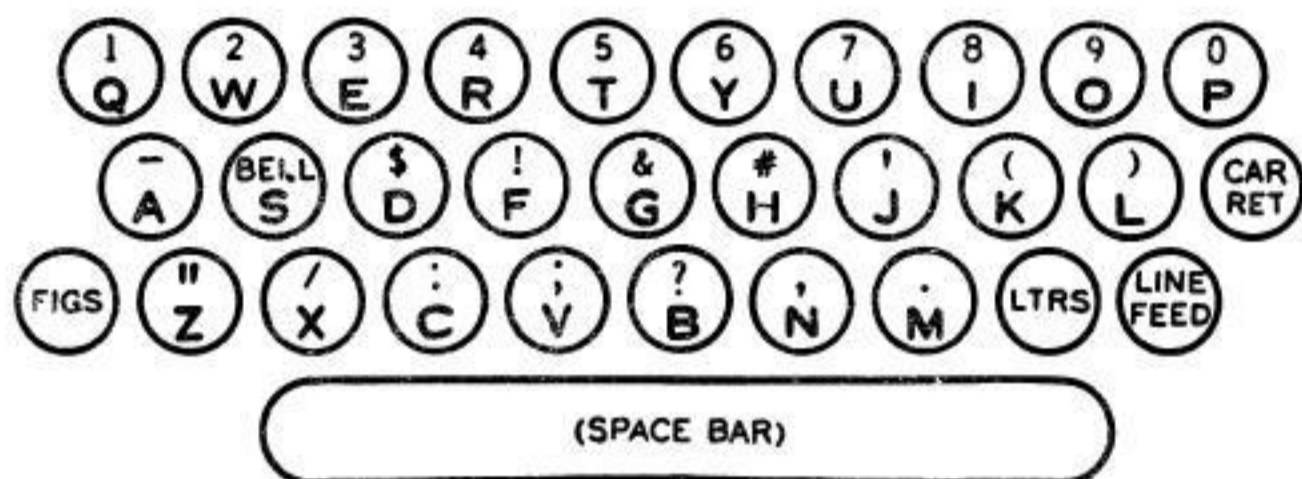

Fig. 1 Arrangement A
2.03 The different type-pallet arrangements available are shown in Figs. 1, 2, 3 and 4.